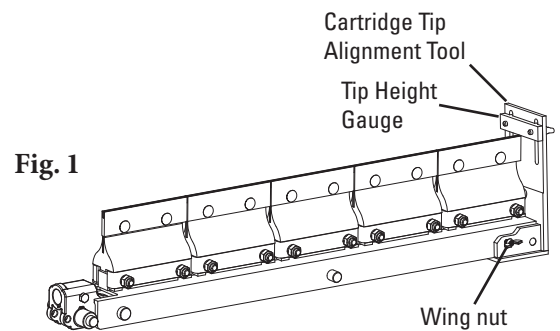

Fig. 1
3. On one cartridge, place the Cartridge Tip Alignment Tool on the end with the notch and alignment holes. Using those alignment holes, tighten the tool to the cartridge with wing nut (Fig. 1).